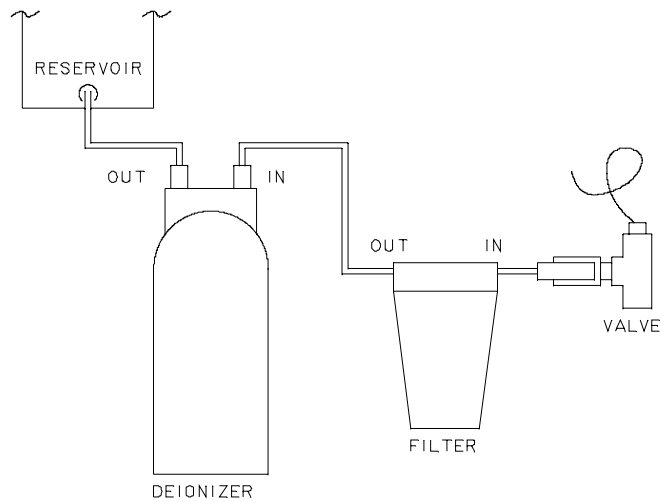

Figure 7. Typical Deionizer Cartridge Flow and Filter
2. Detach input and output 3/8 in lines from the low spillage couplings (see Figure 7). These couplings are hand operated, and mounted in a position to prevent the reversal of the input and output lines.
2. Unscrew the filter housing (see Figure 7).